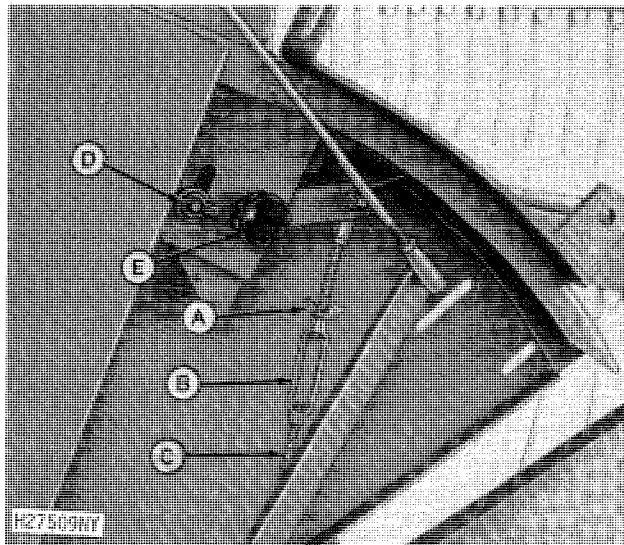

Fig. 119-Adjusting Switches
3. Loosen wing nut "A" and rotate turnbuckle "B" to lengthen rod "C" until raise switch clicks (Fig. 119). Then rotate turnbuckle one additional turn and tighten wing nut "A".
4. Start combine engine and raise platform until the red range indicator ball is on "2". Loosen wing nut "D" and rotate knob "E" counterclockwise until the lower switch clicks (Fig. 119). Tighten wing nut.
NOTE: To check setting of raise switch, raise platform to maximum height and lower hydraulic cylinder safety stop. Push cutterbar up, by hand, at each sensor pad and have another person listen for raise switch to click. If raise switch does not click when cutterbar is pushed up at each sensor pad, continue to lengthen rod "C" (Fig. 119) until switch clicks.